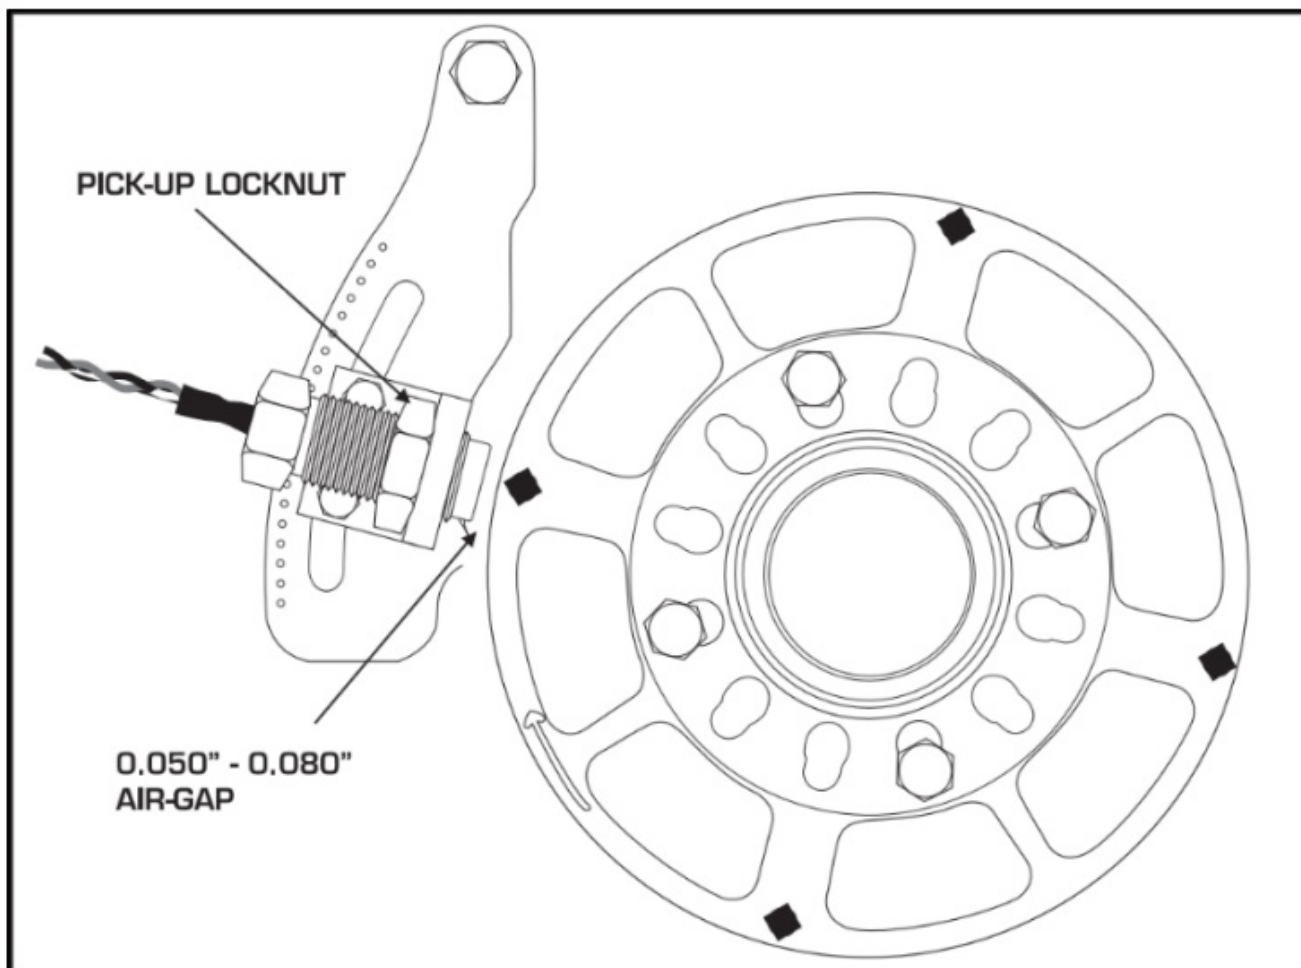

Figure 6: Setting the Air Gap.
2. With the brackets and trigger wheel mounted (with the arrow on the wheel facing out) position the pickup within 0.050" – 0.080" from the wheel using a feeler gauge then tighten the locknut (Figure 6). Do not over tighten the locknut.